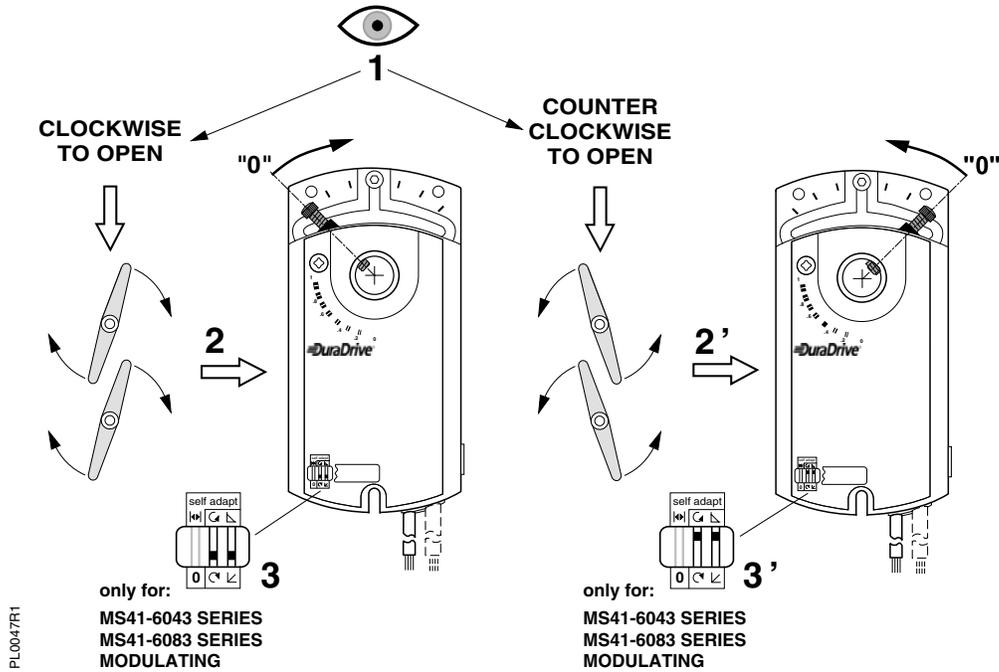

Figure 3. Setting the Direction of Rotation.
1. Determine whether the damper blades will rotate clockwise or counterclockwise to open. See Figure 3.
3. To mount a (modulating) MS41-6043 or MS41-6083 Series actuator, set the Dual In-line Package (DIP) switches to the required positions. See Figure 3.
4. To access the DIP switches, raise the tab on the lower left side of the actuator's face. See Figure 3. The factory setting is clockwise (middle switch), with a direct-acting feedback signal (right switch).
1. To use the entire 0 to 10V input signal to control the adjusted range, raise the tab located on the lower left-hand side of the actuator and locate the DIP switches. See Figure 3.